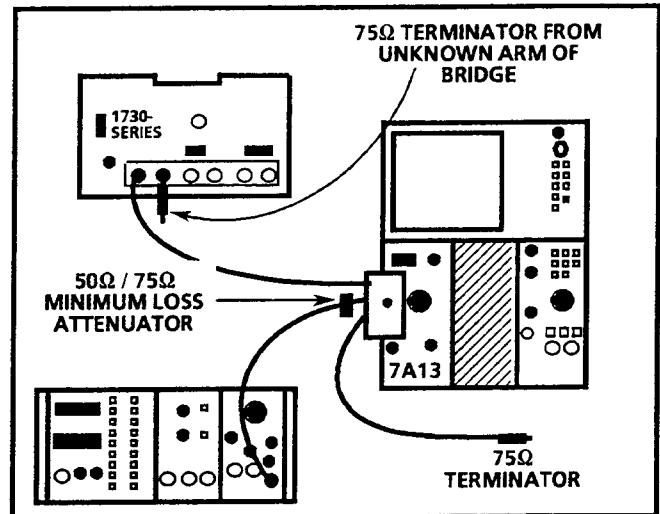

Fig. 5-12. Measuring return loss of 1730-Series CH-A input.
- d. Connect the Unknown arm to the CH-A INPUT of the 1730-Series instrument and the terminator to the opposite side of the loop-through. See Fig. 5-12.